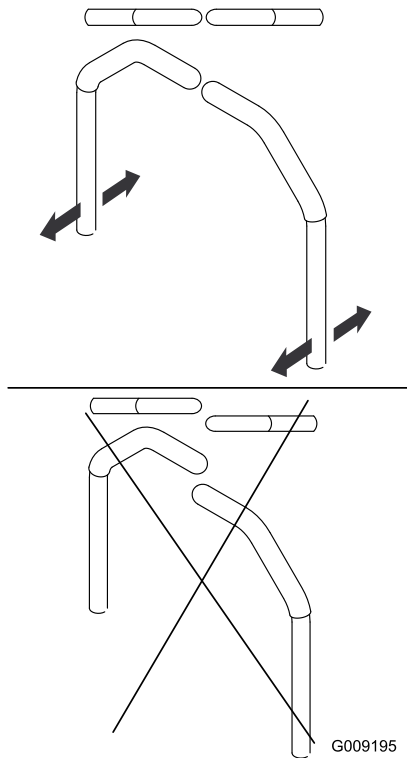

Figure 51
9. Align the levers in the front-to-rear position by bringing the levers together to the NEUTRAL position, and slide them until they are aligned, then tighten the bolts (Figure 51).